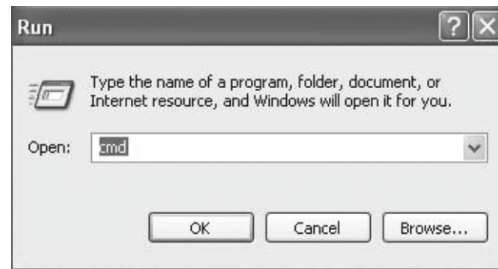

Figure 5-10 Run Window
4. Type in cmd in the prompt Run window as Figure 5-10 and click OK.